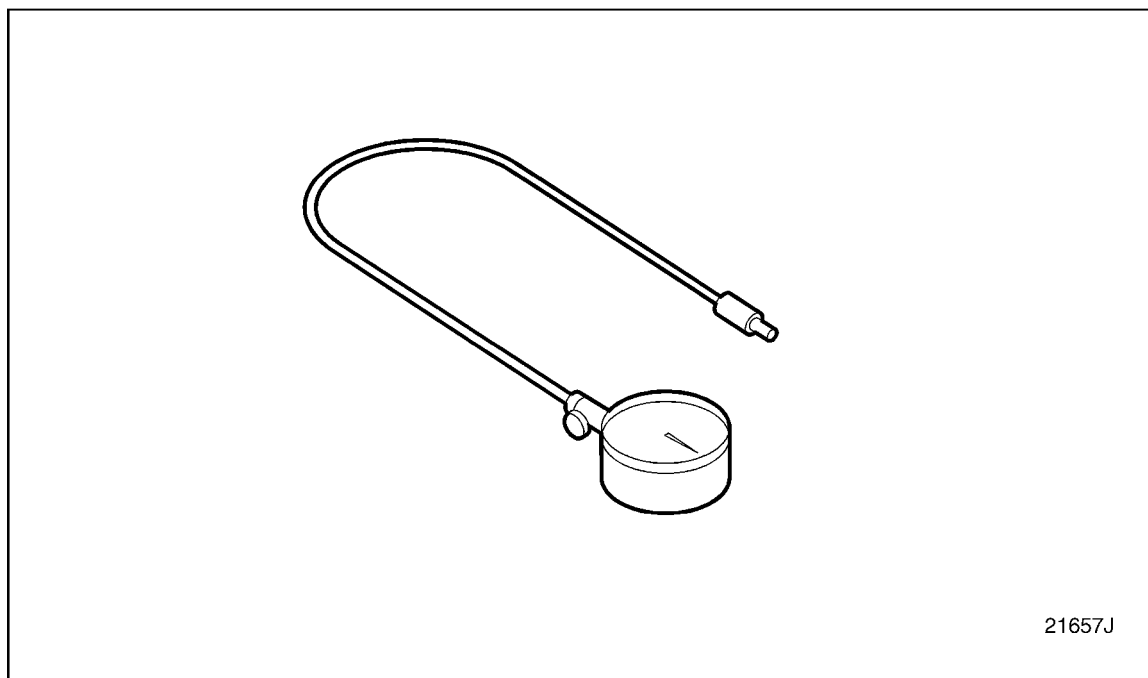

Figure 6-3 Attach Cylinder Compression Gauge J 6692-B
18. Attach cylinder compression gauge (J-6692-B) to the first adaptor. See Figure 6-3.